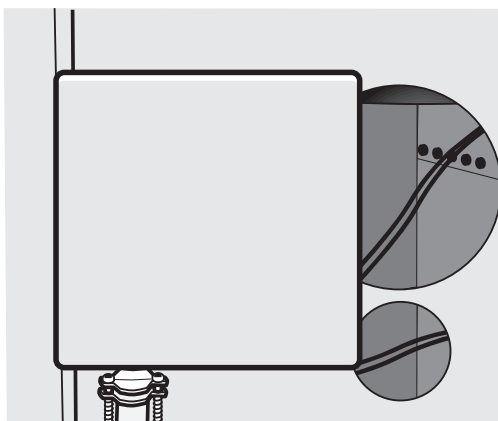

Fig. 11 — Cover Installed on Equipment Control Module
17. Snap cover over top of equipment control module. See Fig. 11.